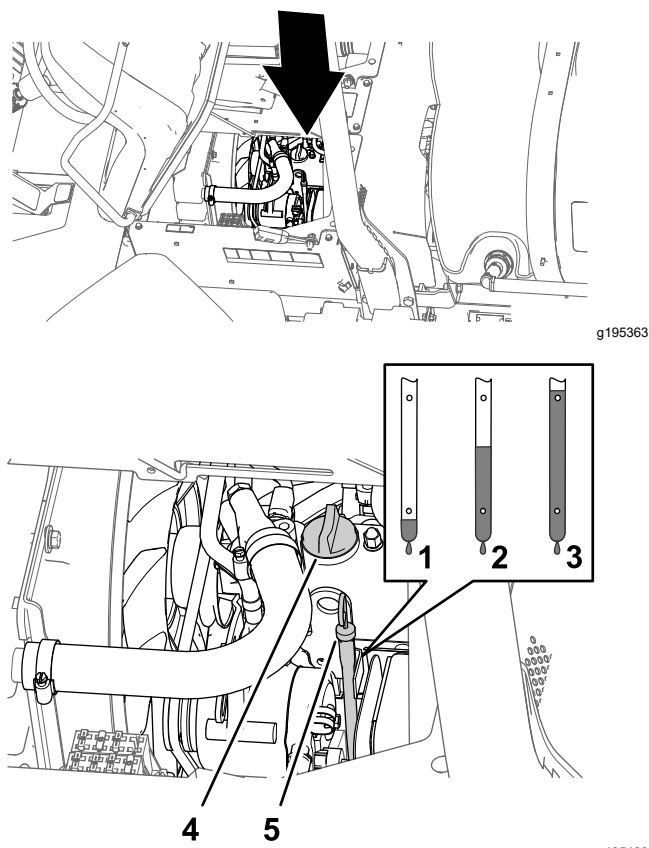

Figure 75
2. Remove the dipstick, located under the passenger seat, and wipe it with a clean rag (Figure 75).
3. If the oil level is low, remove the filler cap from the valve cover (Figure 75) and pour oil into the filler neck until the oil level is up to the Full mark on the dipstick.
4. Install the oil-filler cap (Figure 75).
5. Install the dipstick firmly in place (Figure 75).